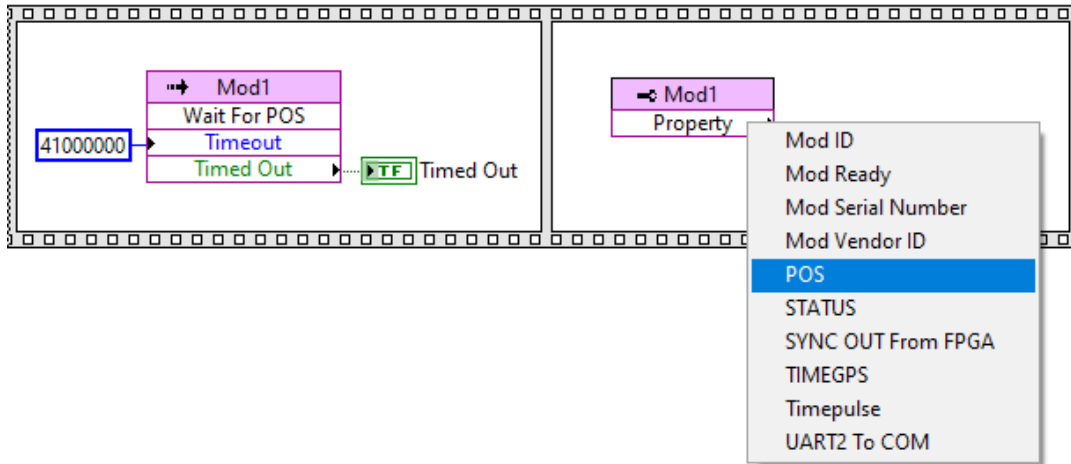

Fig. 9: Quick Start – Select property
- Finally select the property to be executed from the list of available property for the selected item. For this tutorial, select the *POS* property as shown in figure 9.